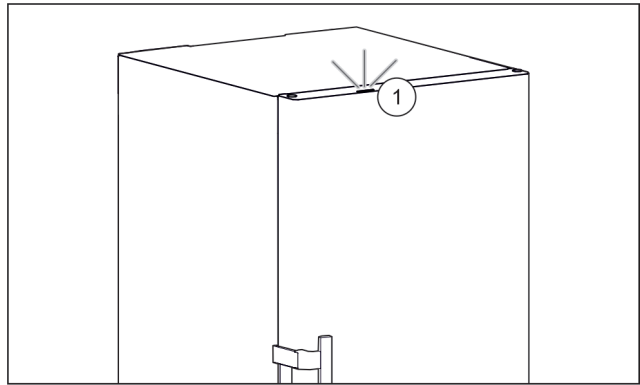

Fig. 41 Active status light when the door is closed
- ▷ Status light Fig. 41 (1) is activated.